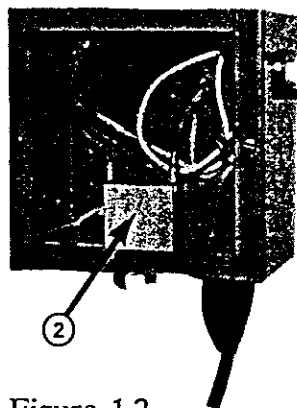

Figure 1.2.
c.) If this works, replace defective circuit breaker [2], see Figure 1.2.